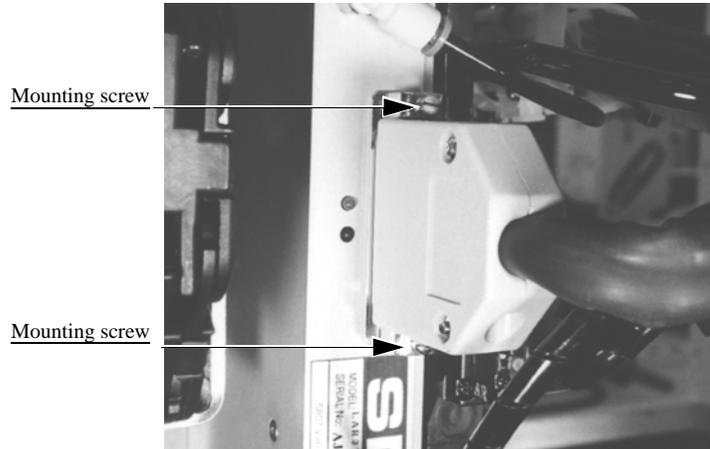

Figure 5-10—PNP head mounting screws
- 1a) Check and if necessary tighten the mounting screws of the PNP head wiring harness. See *Figure 5-10*.